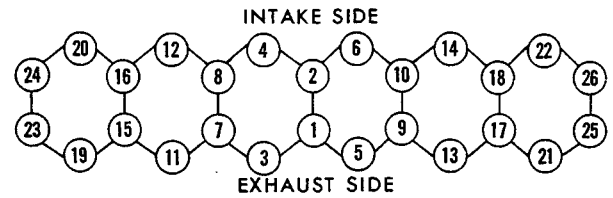

Figure 24
5. Tighten 9/16 in. cylinder head bolts in the sequence shown in Figure 24. Tighten in two steps: